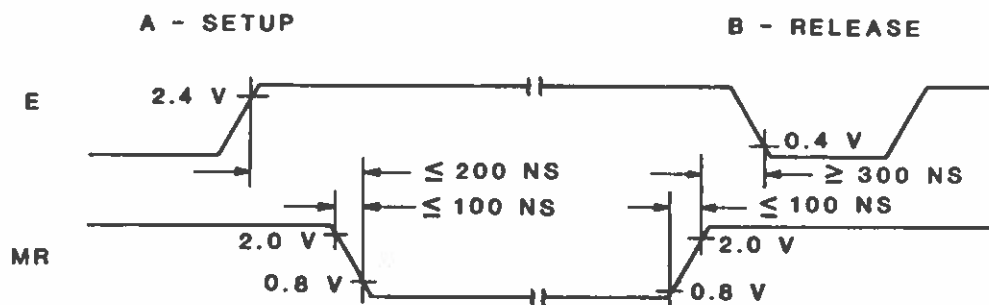

FIGURE 3.3.1. MEMORY READY CONTROL FUNCTION
**BUS CONTROL:** As noted earlier in section 2.0, the MR line is used to allow the MEK6802D3 card to interface with cards that have cycle times slower than the D3. This mode of operation is accomplished by pulling the MR line low, logic "0". When MR is low, clock signal E will be stretched integral multiples of half periods, as noted in Figure 3.3.1, thus allowing interface to slow cards.